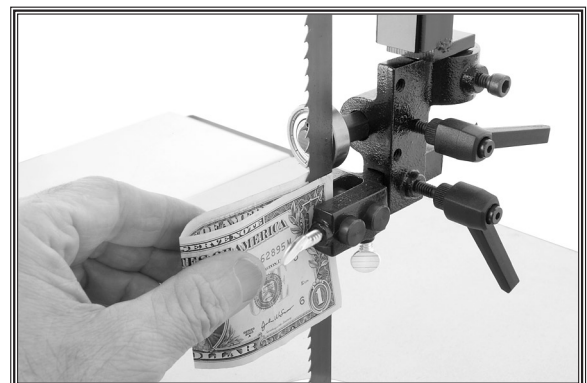

Figure 30. Blade guides against both sides of blade.
7. Fold a crisp dollar bill in half and place it over the blade (between the blade guides and the blade), as shown in Figure 30.